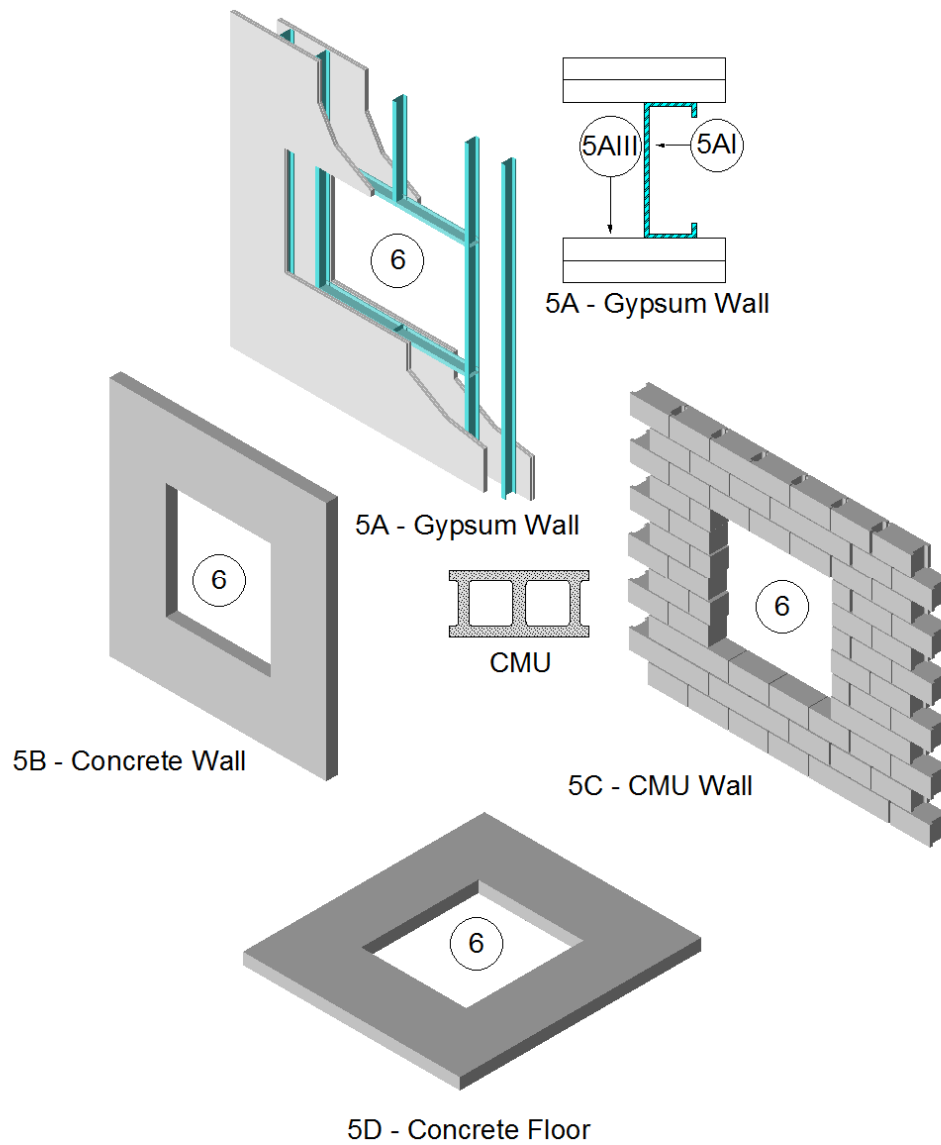

Figure 2. Supporting Construction
5. SUPPORTING CONSTRUCTION: Refer to Figure 2. Use one of the following wall or floor/ceiling assemblies: